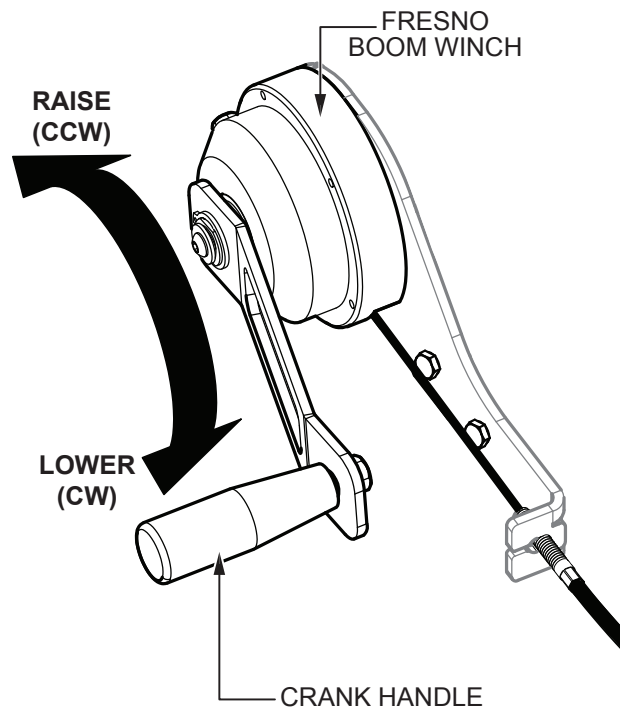

Figure 39. Boom Winch Crank Handle
2. Rotate the boom winch crank handle (Figure 39) **counterclockwise** to raise the boom, and **clockwise** to lower the boom.